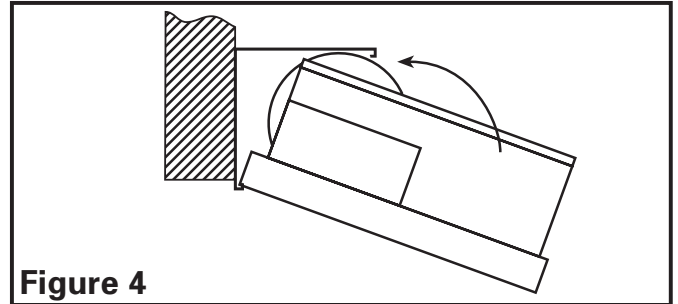

Figure 4
2. Snap the fan body into the bracket (Figure 4). The fan can be snapped into position with the duct collar facing to the left or the right depending which is most convenient.
3. Snap the fan body into the bracket (Figure 4). The fan can be snapped into position with the duct collar facing to the left or the right depending which is most convenient.